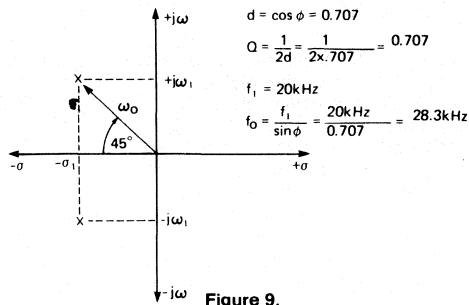

Figure 9.
1. From Table I the inverting configuration must be used to realize a highpass gain of -1. An s-plane diagram of this function is shown in Figure 9. Critical damping requires the pole positions to be on a line 45° with respect to the real axis and this results in no frequency peaking. The damping factor d is:
Because this is a low Q system the natural frequency will not be the same as the highpass cutoff frequency f₁. From Figure 9: